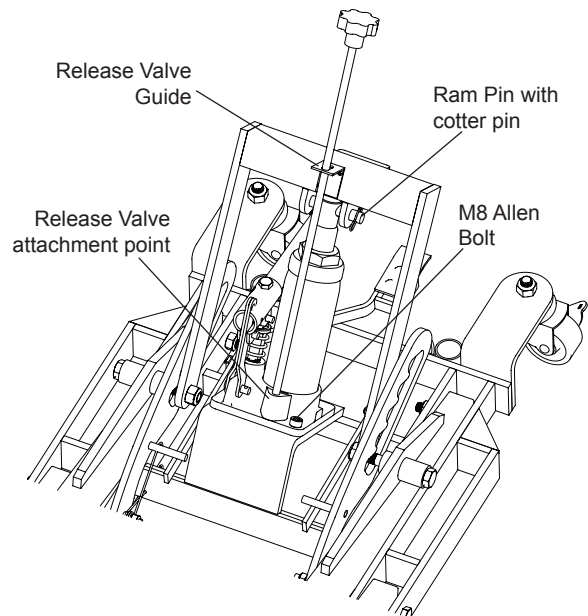
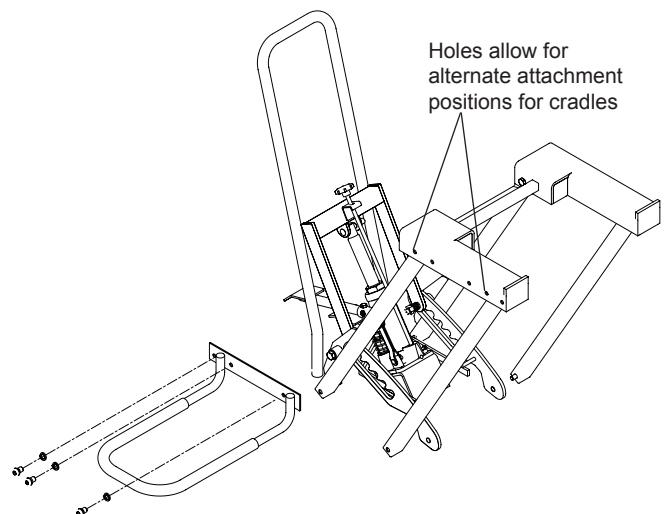

Figure 2 - Hydraulic Unit assembly
Figure 3 - Wheel Cradle assembly
1. Install Hydraulic Unit on receiver and secure with provided M8 x 1.25 bolts (ref. Figure 2).
5. Install Positioning Handle into frame and secure using the provided pins (2).
6. Attach two Wheel Baskets to sides of Lift Platform (ref. Figure 3).